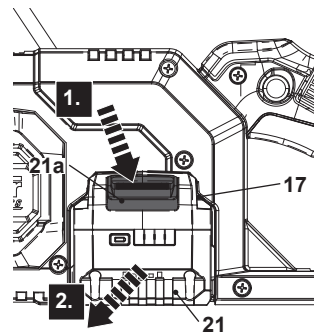

Fig. 14
2. Press the release button (21a) and remove the battery pack (21) from the battery docking port (17) (Fig. 14, steps 1, 2).